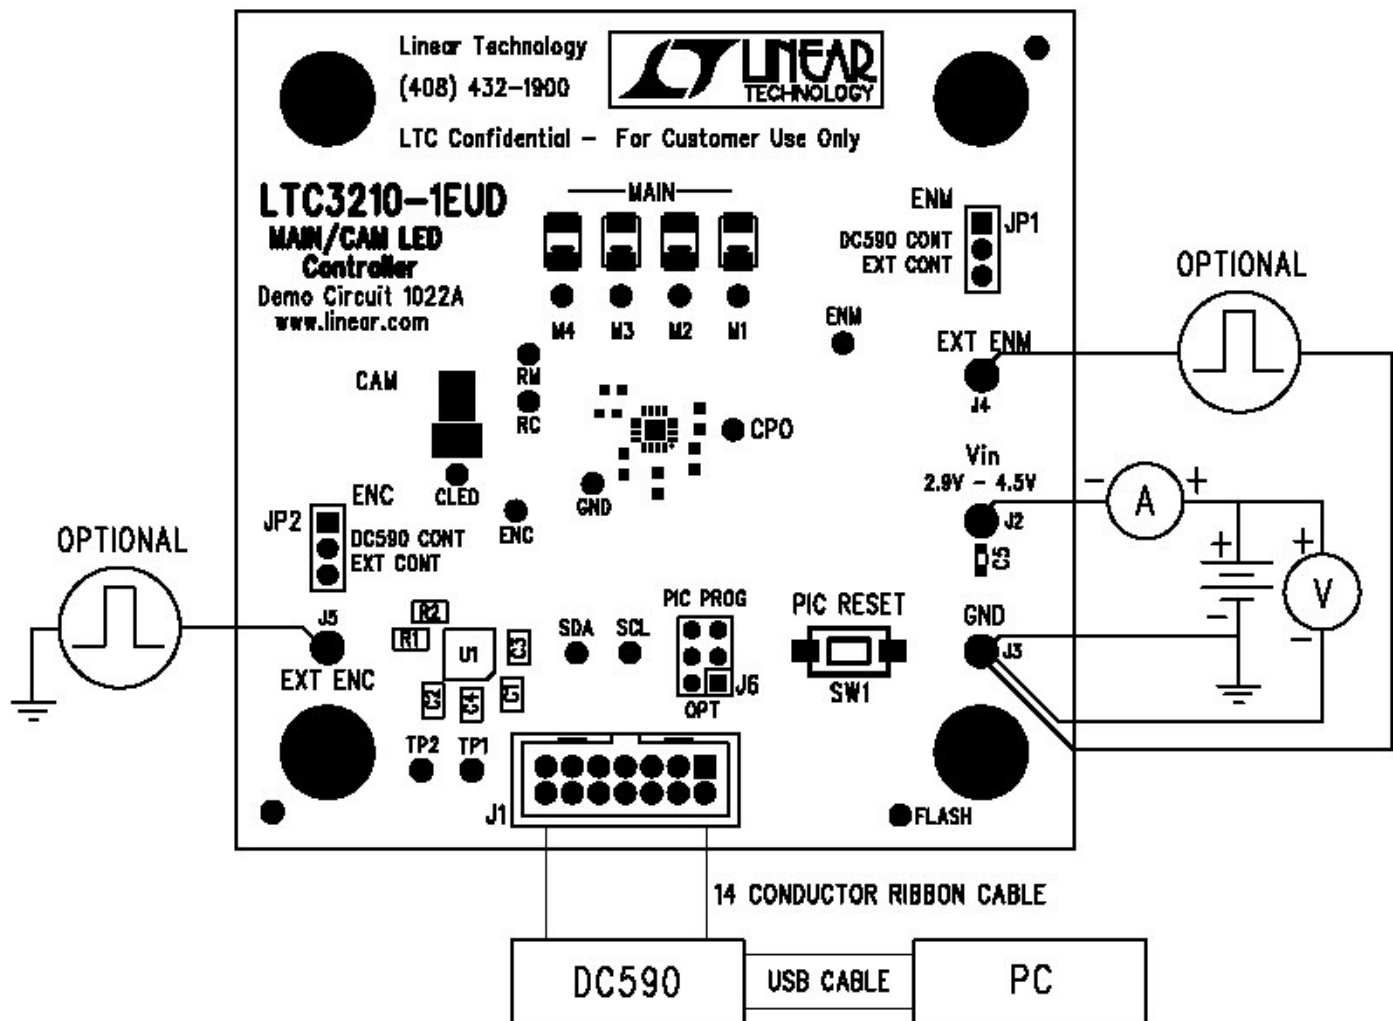

Figure 1. Proper Measurement Equipment Setup for DC1022A
Demonstration circuit 1022 is easy to setup. Refer to Figure 1 for proper measurement equipment setup and follow the procedure below.
3. Connect DC1022 to the DC590 USB Serial Controller using the supplied 14-conductor ribbon cable as shown in Figure 1.